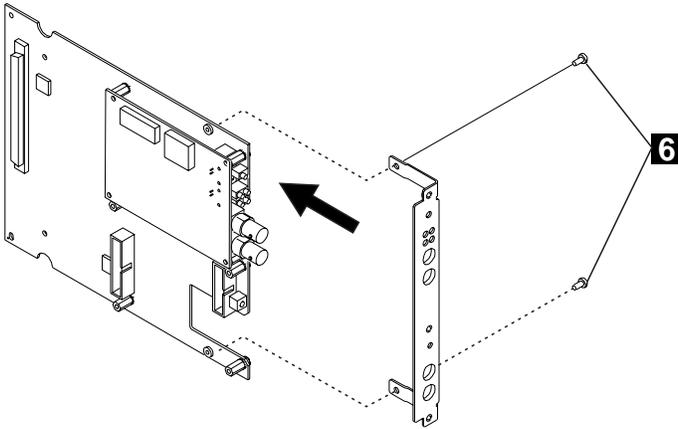

Figure 20. Attaching the Faceplate Bracket
- **6** Attach the faceplate bracket to the motherboard using the two screws (**6** in Figure 20) from the dummy bracket.